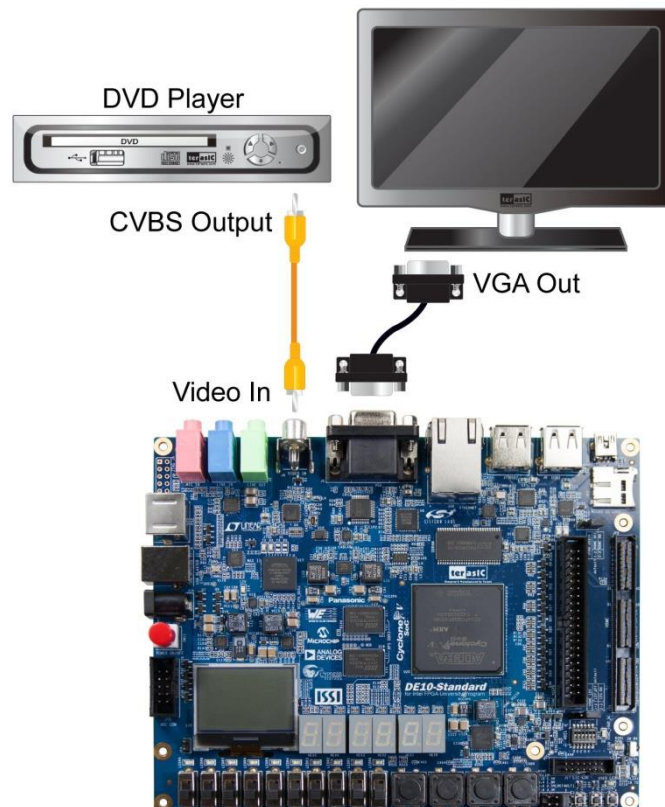

Figure 5-12 Setup for the TV box demonstration (VIP)
- Connect a DVD player's composite video output (yellow plug) to the Video-input RCA jack (J6) on the DE10_Standard board, as shown in **Figure 5-12**. The DVD player has to be configured to provide: NTSC or PAL output, 60Hz refresh rate, 4:3 aspect ratio, Non-progressive video